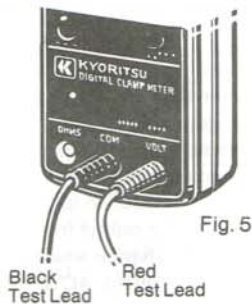

Fig. 5
- (1) Set the function/range switch to 20 V, 200 V, 750 V or 1000 V (indicated in white for DC voltage and in orange for AC voltage).
- (2) Insert the red test lead into the VOLT terminal of the instrument and black test lead into the COM terminal (Fig. 5).